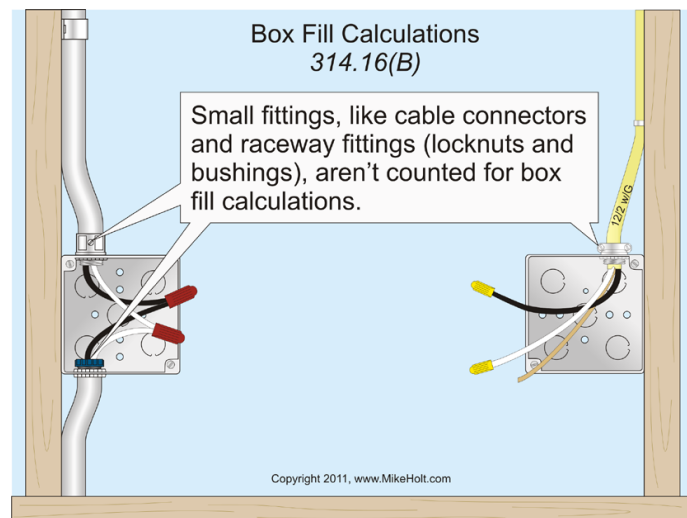

Figure 5-31
The calculated conductor volume determined by (1) through (5) and Table 314.16(B) are added together to determine the total volume of the conductors, devices, and fittings. Raceway and cable fittings, including locknuts and bushings, aren't counted for box fill calculations. **Figure 5-31**